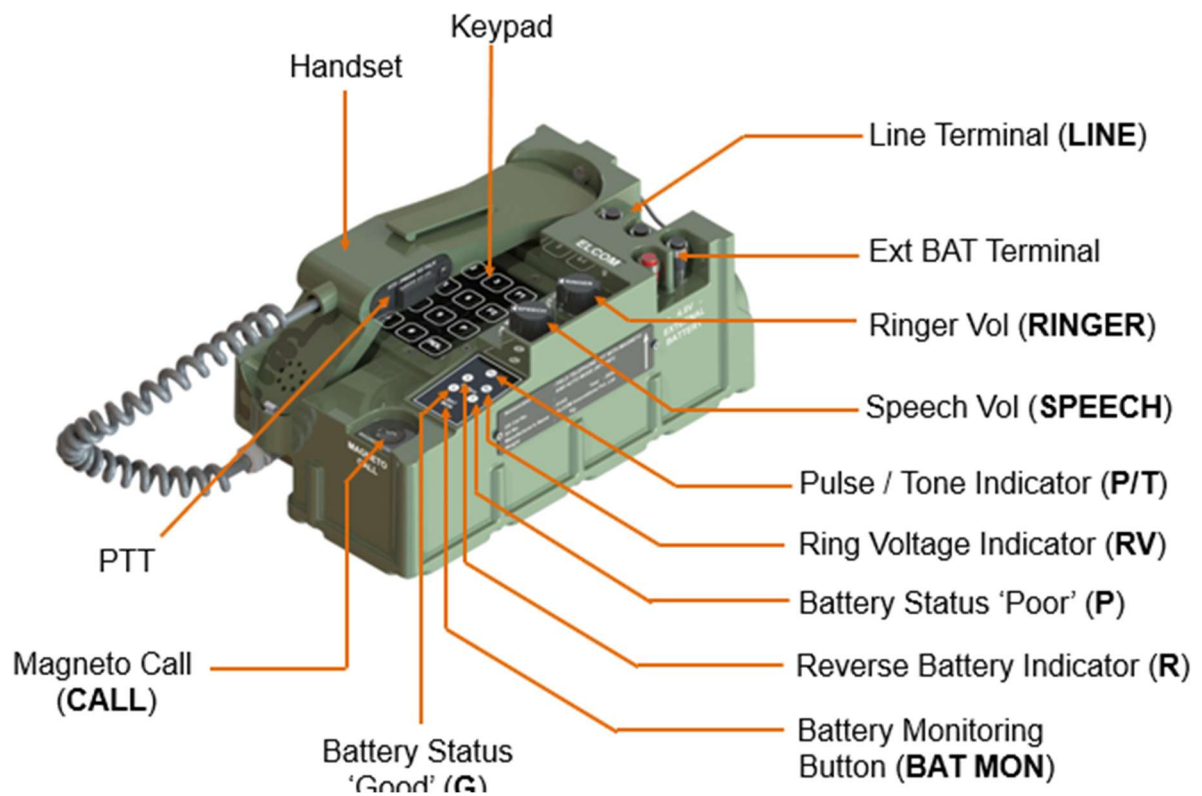
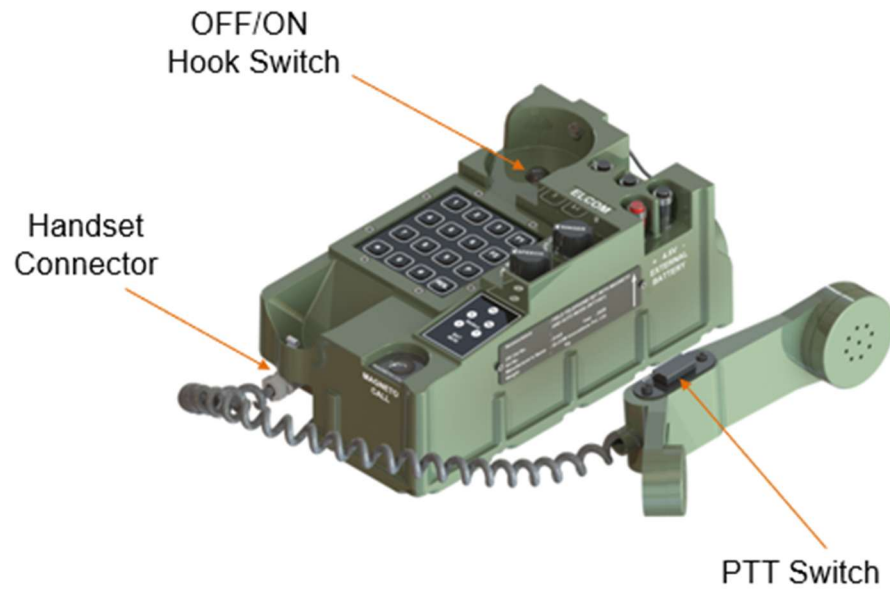

Figure 7: Controls & Terminals
Figure 9: Hook Switch & PTT
In CBT, CBP, LB and RAD mode, the field wires are to be terminated in the line terminals. Line wires will have 2 wires which can be connected to Line Terminals in any of the polarity. Figure 7 shows the terminals for terminating the line.
The Incoming Ring Voltage indicator (RV) on the field telephone, shown in Figure 7, will indicate the presence of ringer voltage in the telephone line. This LED will light up when there is an incoming call to the telephone either in CBT or CBP or LB mode.
RFT1001 has a BAT MON key as shown in Figure 7, which is used to view the status of the internal battery. When BAT MON key is pressed, indicators G & P are used to know the battery status (refer chapter 4.4.8).
When the field telephone is in LB mode, for making an outgoing call on the line, the MAGNETO CALL button has to be pressed for generating a ringing voltage and sending it across the line. The voltage will be generated as long as the MAGNETO CALL button is being pressed. Magneto Call Button is shown in the Figure 7.
It is used to detect the OFF-ON Hook action as shown in Figure 9. It remains covered by the speaker of Handset.
The Press-to-talk (PTT) switch is present on the handset of the field telephone. This switch is to be pressed to activate the microphone of the handset. This is applicable only in LB & RAD mode. There is no need to press PTT in CBT & CBP mode for making a conversation. PTT with handset is shown in the Figure 7 & Figure 9.